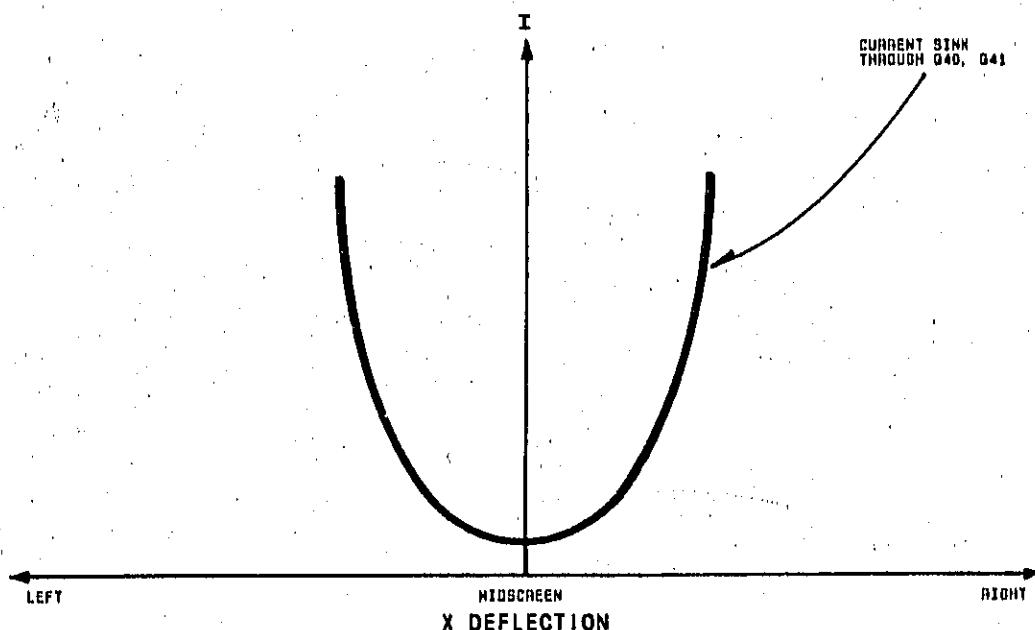

Figure 8-30. Current Source, DYN Focus
This circuit sinks varying amounts of current from the Focus Gate Amplifier ⑩ to maintain sharp focus as the X input is swept. Figure 8-30 shows that the current sink is an exponential function of the absolute value of X. Emitter current of Q40 and Q41 is a function of the voltage difference at the bases of Q40 and Q41. When X_+ (TP9) is high, and X_- (TP10) is low, Q40 turns on, sinking more current. When the CRT beam is at midscreen, X_+ equals X_- , and the voltage difference at the bases of Q40 and Q41 is zero.